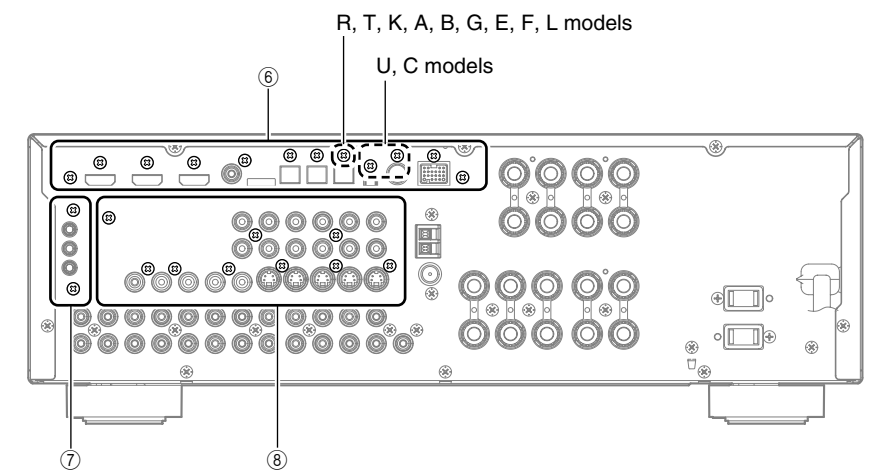

Fig. 3
- Remove 11 screws (U, C models) / 10 screws (R, T, K, A, B, G, E, F, L models) (6). (Fig. 3)
- Remove 2 screws (7). (Fig. 3)
- Remove 9 screws (8). (Fig. 3)